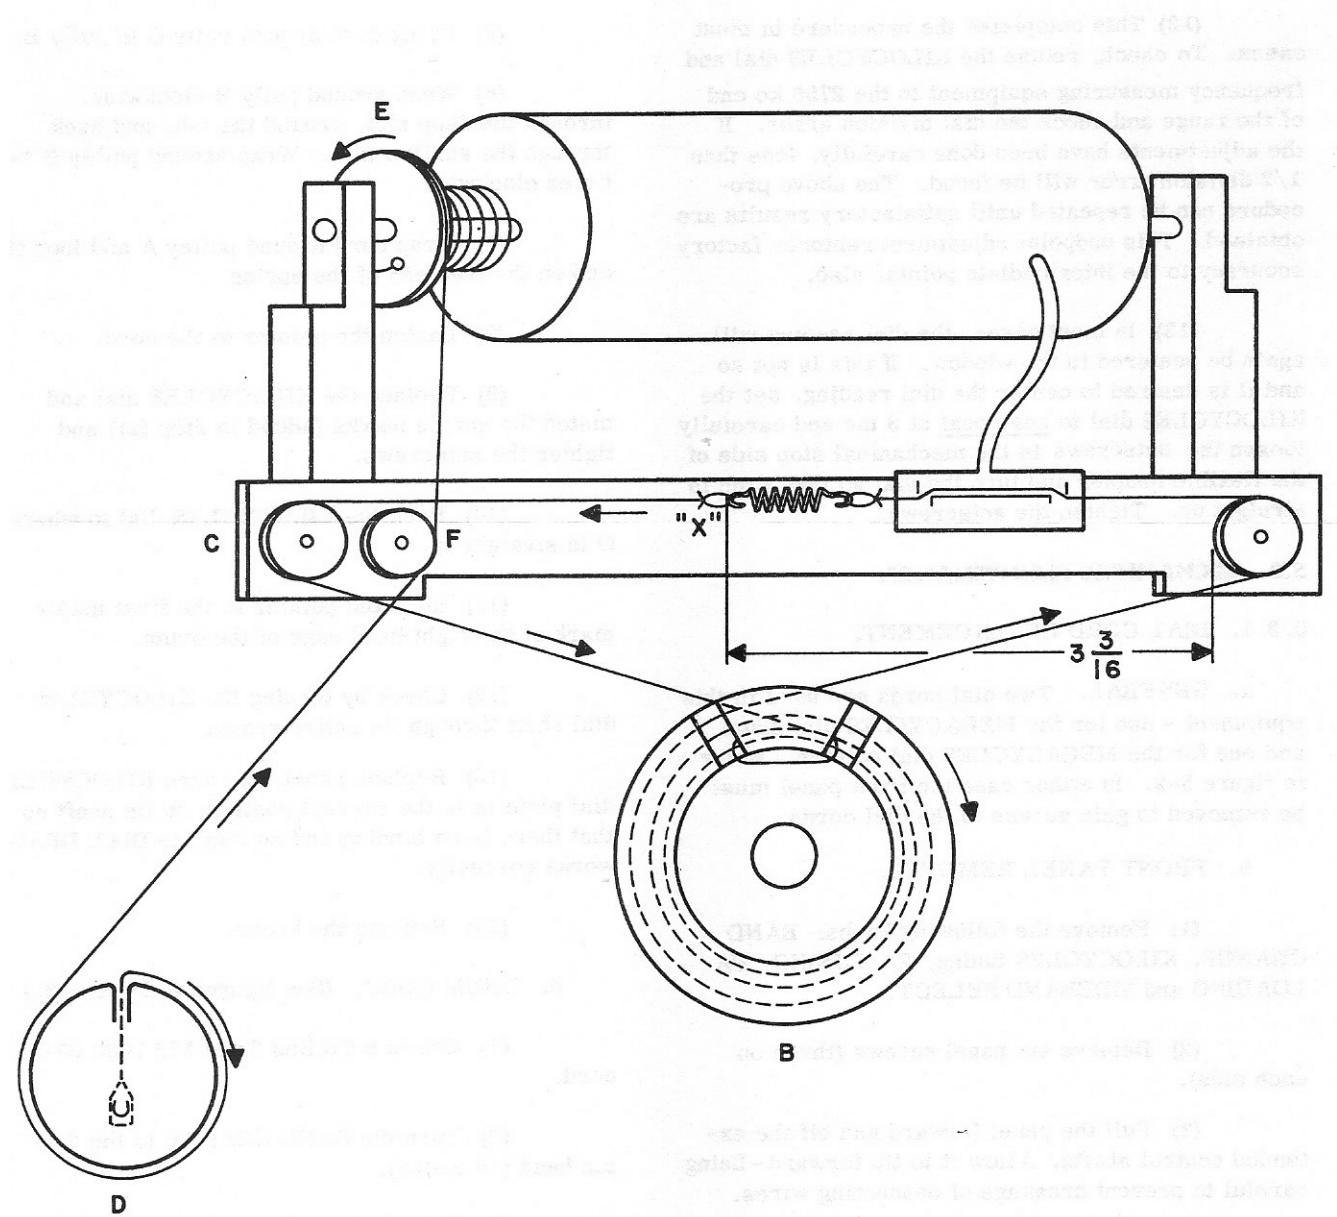

Figure 5-2. Dial Cord Replacement
a. GENERAL. Two dial cords are used in this equipment - one for the MEGACYCLES dial drum and one for the MEGACYCLES dial pointer. Refer to figure 5-2. In either case the front panel must be removed to gain access to the dial cords.
(1) Remove the following knobs: BAND CHANGE, KILOCYCLES tuning, PA TUNING, PA LOADING and SIDEBAND SELECT.
(2) Remove six panel screws (three on each side).
(3) Pull the panel forward and off the extended control shafts. Allow it to tip forward - being careful to prevent breakage of connecting wires.
c. POINTER CORD. (See figures 5-2 and 6-3.)
(1) Obtain a type 432 1018 00 Collins dial cord. This cord is cut to correct length and has securing loops already tied in the ends (as does the drum cord).
(2) Scribe a mark on the KILOCYCLES tuning shaft and the dial hub to mark their relative positions and remove the KILOCYCLES dial.
(3) See figure 5-2. Turn the KILOCYCLES tuning shaft to the clockwise stop.
(4) Start at point X in the drawing with the cord hooked to one end of the spring (Collins Part Number of this spring is 503 1240 001).
(5) Bring cord around pulley C to pulley B.
(6) Wrap around pulley B clockwise, through the deep slot, around the tab, and back through the shallow slot. Wrap around pulley B two times clockwise.
(7) Wrap cord around pulley A and loop the end on the free end of the spring.
(8) Fasten the pointer to the cord.
(9) Replace the KILOCYCLES dial and match the scribe marks (added in step (2)) and tighten the setscrews.
(10) Back the KILOCYCLES dial to where O is straight up.
(11) Slide the pointer to the first major mark at the right-hand edge of the drum.
(12) Check by turning the KILOCYCLES dial shaft through its entire range.
(13) Replace panel - be sure KILOCYCLES dial plate is in the correct position on its shaft so that there is no binding and so that the DIAL DRAG works correctly.
(14) Replace the knobs.
d. DRUM CORD. (See figures 5-2 and 6-3.)
(1) Obtain a Collins Type 532 1020 00 dial cord.
(2) Turn the BAND CHANGE to the 3-4 mc band (80 meter).
(3) Turn pulley E approximately one turn and hold tension spring taut. (The front panel must have been removed as in paragraph b. above.)
(4) Make approximately 3/4 turn around pulley D and hook cord to tab.
(5) Extend the cord around the inside of the idler pulley F and go around pulley E to the tab and hook the cord to it. Release the tension spring.
(6) Replace the panel and knobs.
(7) Loosen the setscrew in the drum hub opposite the coil tension spring and align the drum calibration to the 80-meter band then tighten the setscrew.